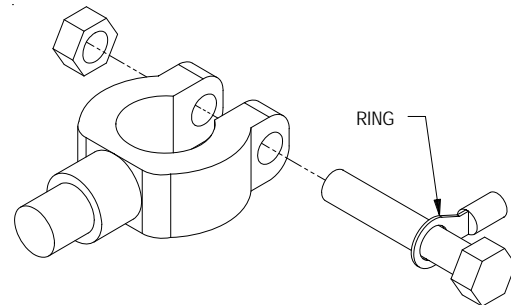

Figure 3
**Electrical Installation** – The output leads of the charger are terminated ring lugs. Install the ring lugs on the bolt-head side of the battery terminal (see figure 3). Route and secure the AC cord and the output wiring away from the gas line, carburetor or other hot, sharp or moving and pinch parts to avoid damage to the insulation. Secure the AC cord using a